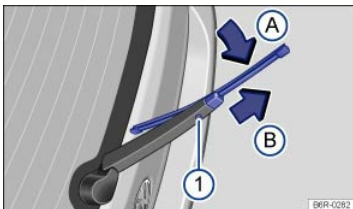

Fig. 205 Changing the rear window wiper blades.
- Press and hold the release button ⇒ Fig. 205①.
- While lifting the wiper blade in the direction of the wiper arm ⇒ Fig. 205 (arrow ①), pull off the wiper blade in the direction of the arrow ②. This may require moderate force.
- Install a new wiper blade of the **same length and type** onto the wiper arm by pushing in the opposite direction of the arrow ⇒ Fig. 205③ until it latches.